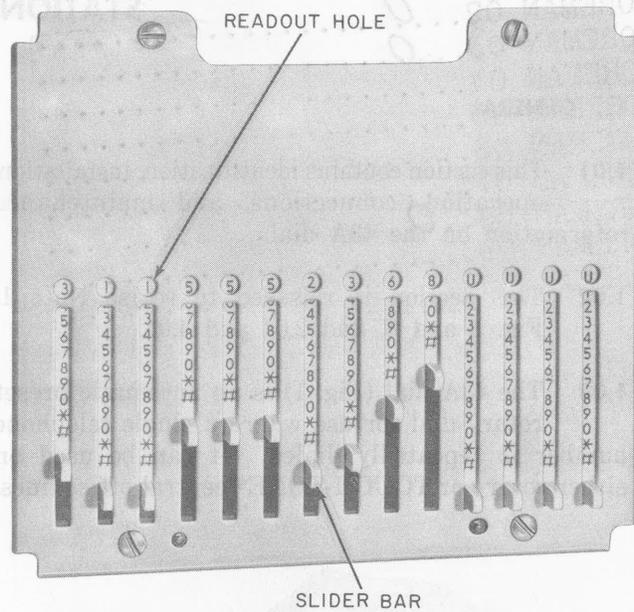

Fig. 2—43A Dial Coding Board
- Slide switch programming with readout of telephone number (Fig. 2). Up to a maximum of 14 digits may be programmed.
3.08 Set coding board slide switches (Fig. 2) as follows: